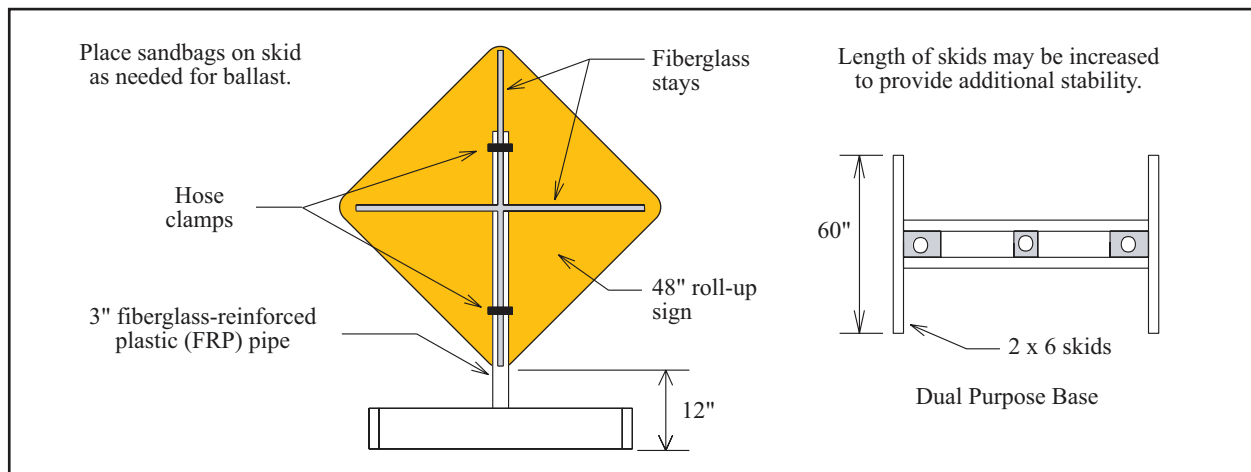

Figure J-10. Hwy Com's short-term H-leg sign support (1 foot mounting height)
- ◆ FRP pipe with dual-purpose base (Figure J-10).